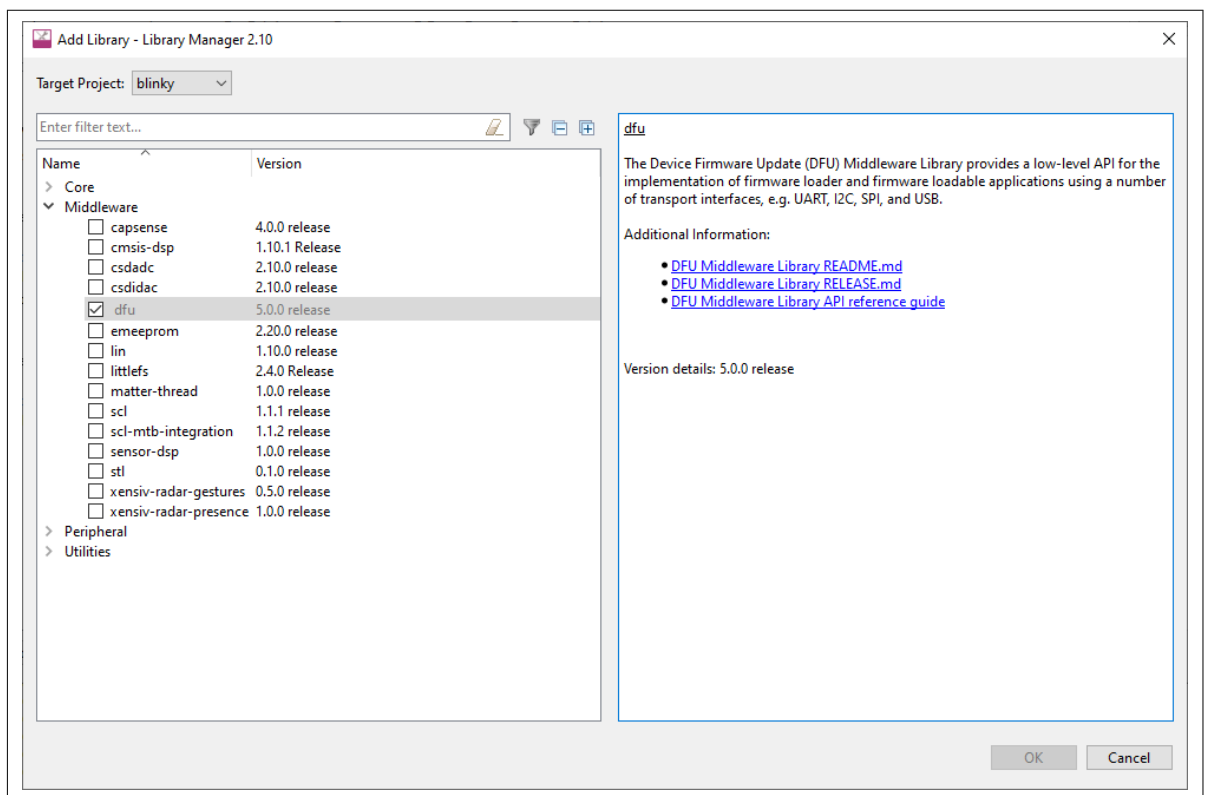

Figure 13 Incorporate DFU MW into a ModusToolbox™ project
4. Incorporate the DFU MW into the project, as shown in Figure 13. Right-click the project in the **Project Explorer** window and click **ModusToolbox™ > Library Manager**